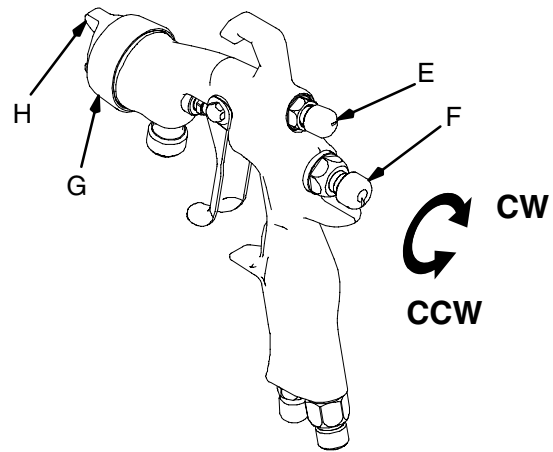

Fig. 2
See Fig. 2.
3. **Adjusting Air Spray Gun:** Use the fan pattern adjusting valve (E). Normal adjustment is with the valve turned out fully clockwise and then turned in two full turns.
**Adjusting HVLP Spray Gun:** Use the fan pattern adjusting valve (E).
4. The fluid adjusting valve (F) is used in systems that do not have a fluid regulator. As this package includes a pressure pot regulator (33), use it to adjust fluid flow. Turn the valve (F) out until full trigger travel is obtained.
6. Loosen the air cap retaining ring (G) and rotate the horns (H) of the air cap to obtain the desired spray position. Tighten the retaining ring snugly, but do not over-tighten it. See Fig. 2 and 3.